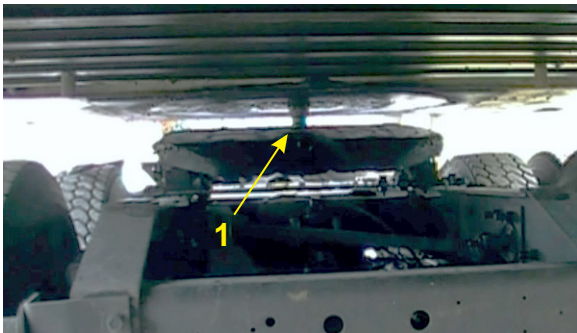

Figure 3-17 – Kingpin On Top of Fifth Wheel
- After shutting off the engine and removing the ignition key, check the connection between the fifth wheel and the kingpin. There should be no space between these items. If there is space, the kingpin may be on top of the fifth wheel jaws (1, Figure 3-17), which would allow the trailer to come loose when the tractor is moved forward.